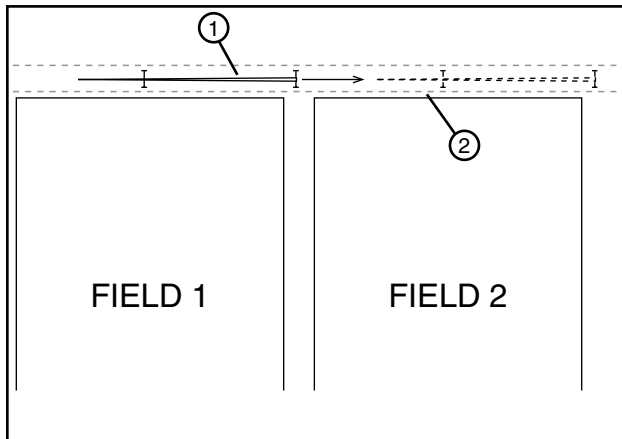

Figure 58-1 1. Machine
1. Position the machine in the tow lane. See figure 58-1.